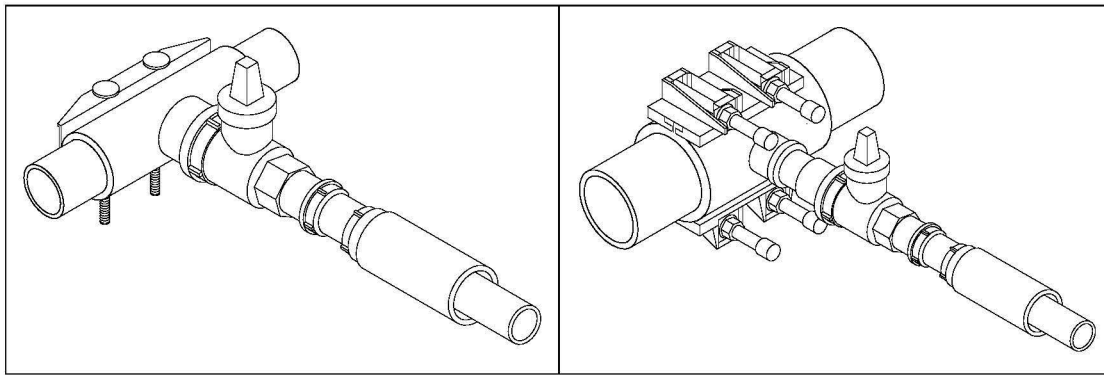

Figure A29 – Example – Service connection to an Encirclement Fitting
3. Attach the correct size full encirclement fitting onto the main and tighten using a torque wrench as per manufacturers' instructions (Figure A29).
5. The main can be drilled using a long reach drill (as shown in Figure 31) which is connected to the outlet thread/flange of a full bore valve fitted to the tapped boss of the fitting (as shown in Figure A29).